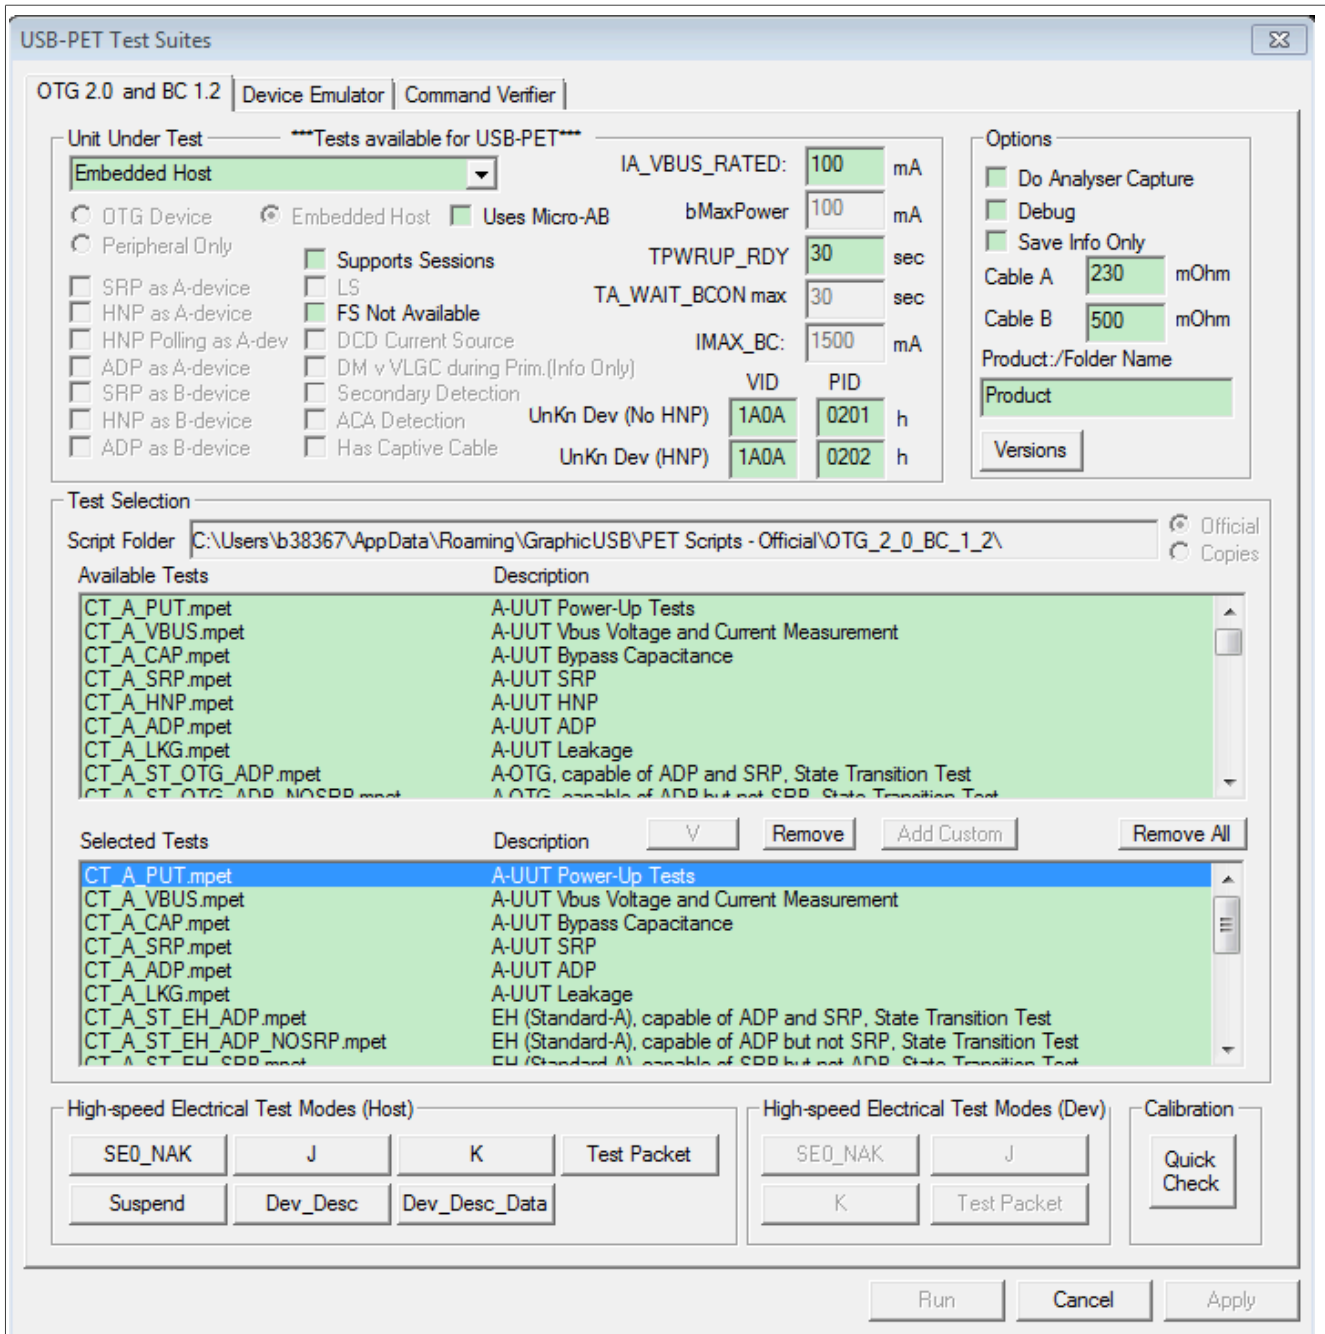

Figure 139. USB-PET Test Suites
- Click **Operation** -> **Compliance Tester** on the menu bar. The Test Suite dialog appears as shown in Figure 139 below.